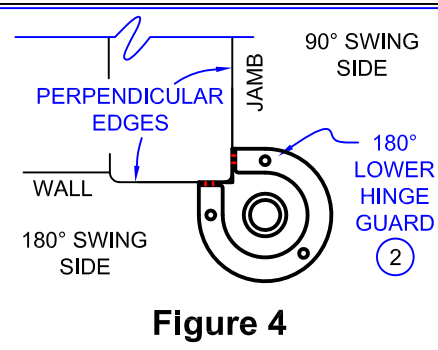

Figure 4
PLACE THE LOWER HINGE GUARD ② ONTO THE CORNER OF THE JAMB AND AT THE FINISHED FLOOR LEVEL WITH THE BASE PLATE RESTING ON THE FLOOR, SEE FIGURE 4.